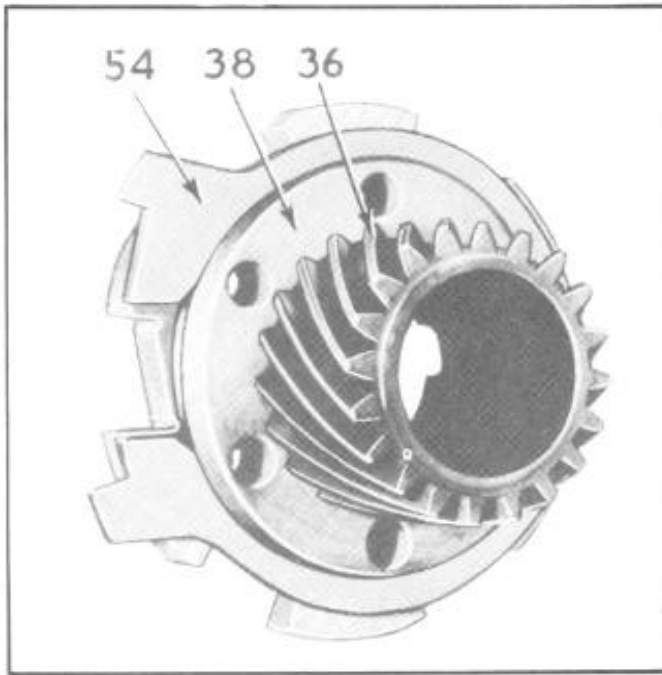

Figure 36--Stationary Gear and Plate Assembly
1. Remove snap ring (37), Figure 17, from stationary gear that holds stationary gear plate (38), Figure 36, to stationary gear (36) and slide plate off the gear.
2. The balk ring (54) grips the stationary gear plate (38) so that a pull of 8 to 10 pounds is required to rotate the balk ring on the gear plate.